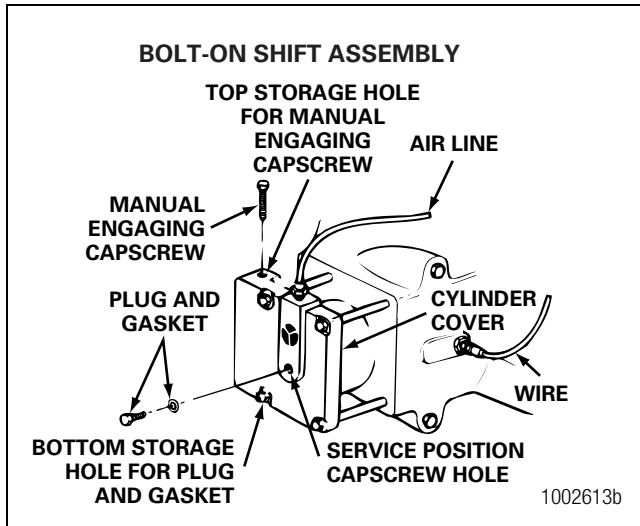

Figure 11.6
- A. Disconnect the air hose from the shift cylinder. Figure 11.6.
- B. Remove the manual engaging capscrew from the storage hole. The storage hole of threaded shift assemblies is located in the shift tower of the carrier, next to the cylinder. Figure 11.6.
- 10. Install the manual engaging capscrew into the storage hole. The storage hole of bolted on shift assemblies is located in the top side of the shift cylinder cover. Tighten the capscrew to 15-25 lb-ft (20-35 N•m). Figure 11.6. 11